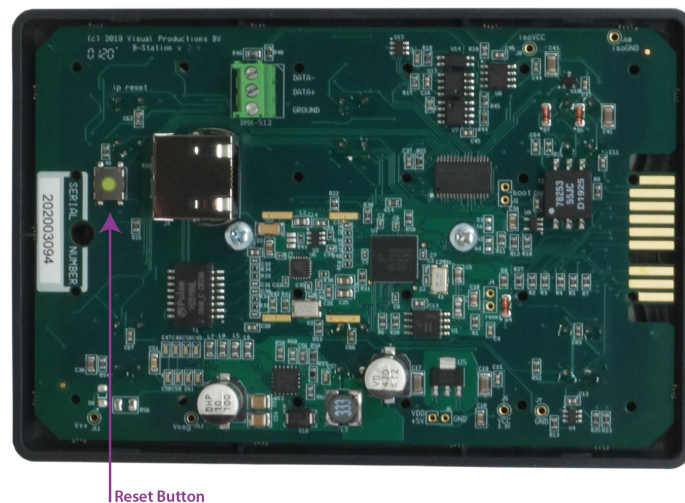

Figure 5.2: Reset button
- By briefly pressing the **reset button** on the back of the device it toggles between static and automatic IP addresses. When switching modes, the B-Station2's leds will briefly flash in red for DHCP, or in white for static. By pressing and holding the reset button (see figure 5.2) on the device for 3 seconds, it will reconfigure the unit to the factory default IP address and subnet mask. No other settings will be changed. The default IP address is 192.168.1.10 with the subnet mask set to 255.255.255.0.